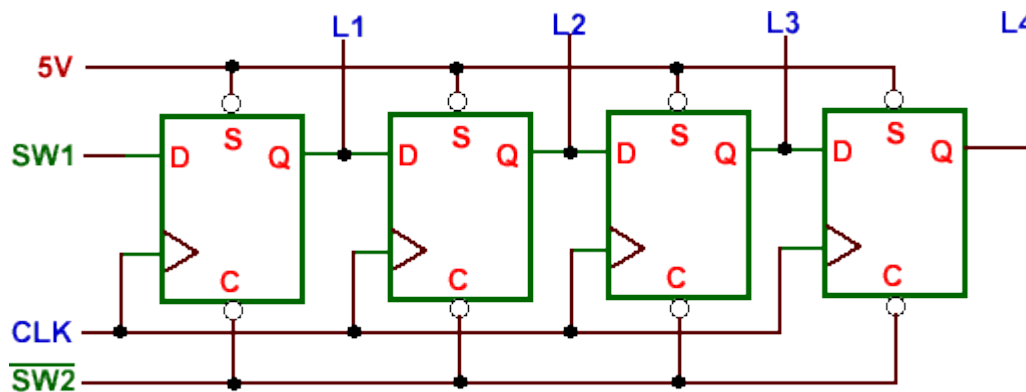

Figure 1. 4-bit shift register.
A shift register is an n-bit register with provision for shifting its stored data by one position at each clock pulse. The logical configuration of a shift register consists of a chain of flip-flops connected in cascade, with the output of one flip-flop connected to the input of the next flip-flop. All flip-flops have a common clock. In Fig. 1, a positive pulse at CLK[↑] will cause the contents of each flipflop to be shifted one position to the right, bringing the serial input bit (SW1) in at the left and pushing the bit stored in L4 out at the right. That bit is lost unless it is saved externally. Although Fig. 1 shows a shift-right register, the same register can obviously be used for left shifts simply by reversing the sense of the bits. Most shift registers have provision for shifting only in one direction, but some have a control input that allows either left or right shifting to be specified at each clock.
Use two 7474 dual flip-flops to connect a serial-in, parallel-out shift register as shown in Fig. 1. Draw the wiring diagram in your lab notebook (refer to the IC specifications document for pin numbers). Connect L1–L4 to four LEDs (from the LED bar graph), SW1 and SW2 to switches, and CLK to a normally low pulser. Implement your design on your breadboard. Test the behavior of the circuit as follows. (1) Initially, set SW2 to logic 0 to clear all flip-flops (diagram shows SW2 as active-low). (2) Now set both SW2 and SW1 to logic 1; i.e. flipflops are no longer being cleared and serial input is high. (3) Push the pulser button several times to allow a series of logic 1's to be shifted into the shift register. (4) Change SW1 to logic 0 and repeat the experiment.
(H), a negative clock pulse shifts the serial input SER into QA, pushing QD out at the right. This experiment uses only these two conditions; i.e. lines 1 and 3 of the function table (so LOAD and parallel inputs ABCD are ignored.). Here you will implement the circuit in Figure 1 using the 74179. Note that outputs L1...L4 appear here as QA...QD. Connect SER and CLR to switches, SHIFT to Vcc (it will not change), and CLK to a pulser. Also, connect outputs QA...QD to LEDs.